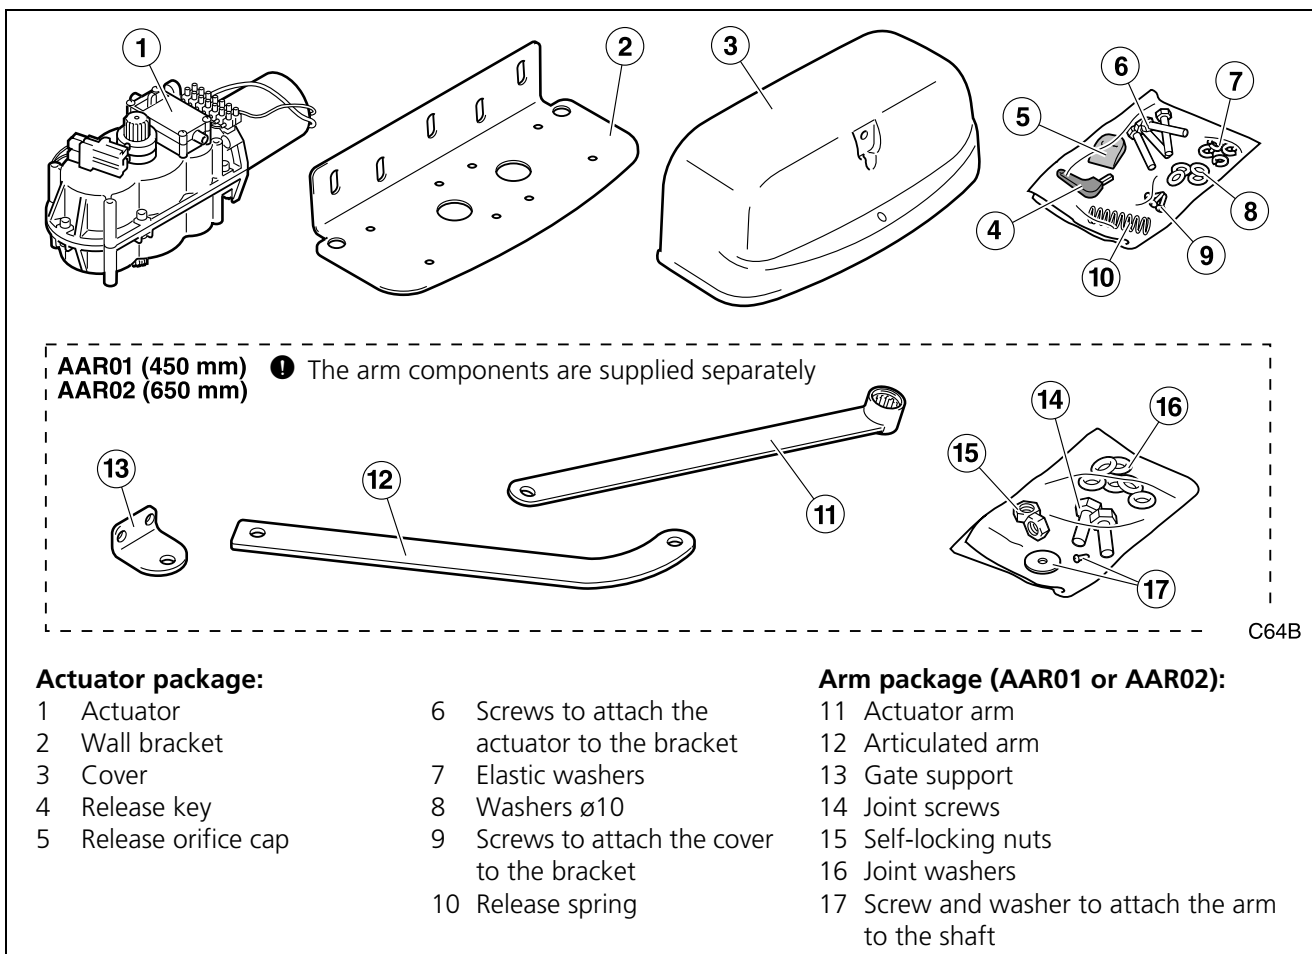

Fig. 2 Content and spare parts
- 2 Check the content of the packages (see "Fig. 2 Content and spare parts" on page 29).